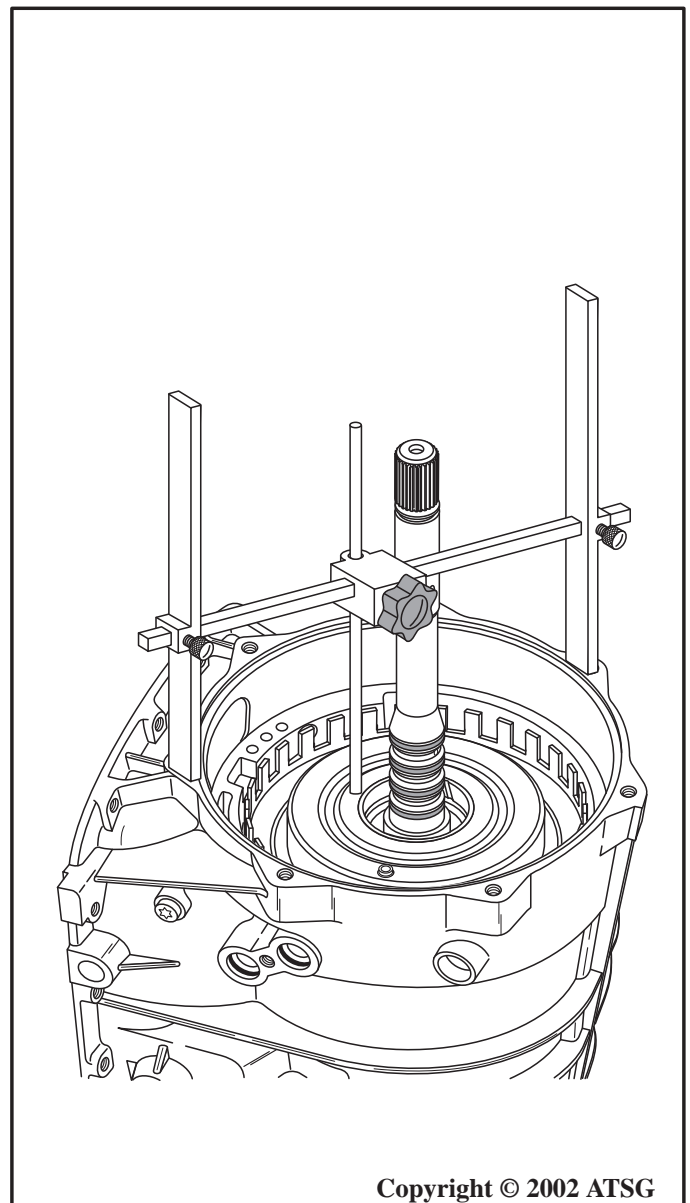

Figure 189
21. Install the "H" gage on top surface of the case, as shown in Figure 189, loosen adjusting knob and allow gage rod to rest on washer surface of reverse clutch housing (See Figure 189).